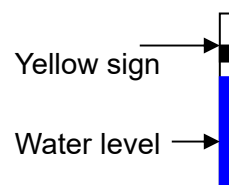

Figure 1
3. Pouring the water (DISTILLED WATER ONLY) into the water reservoir, until the water level near the "FULL" level signs at outside cover. **Other way you can see water level below yellow sign of exhaust pipe at outside cover (See figure 1)**